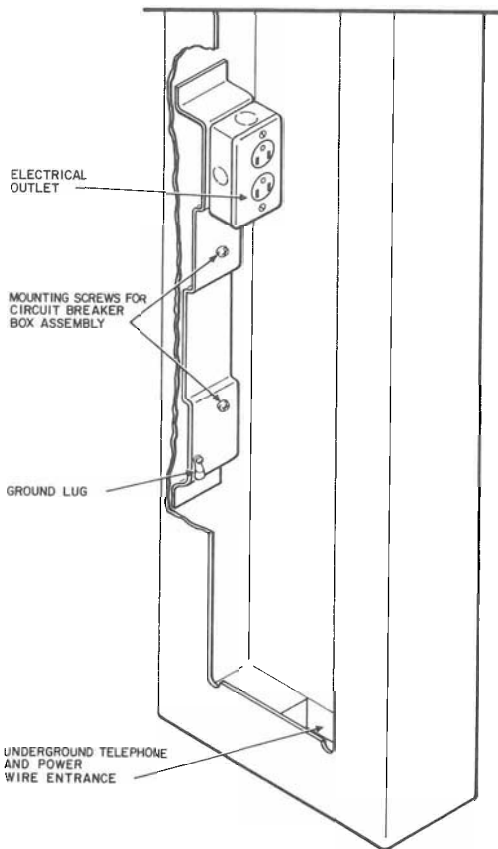
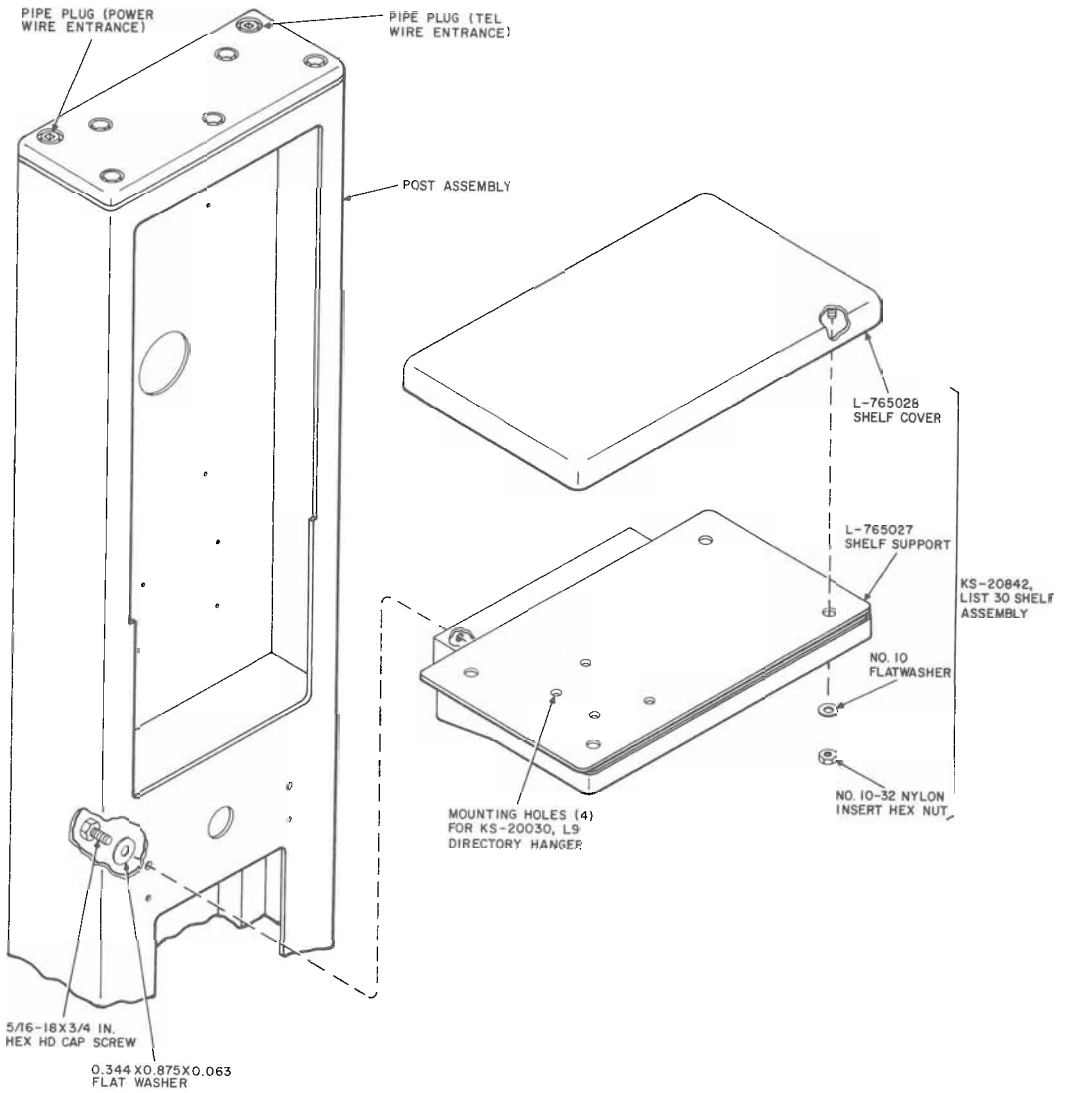
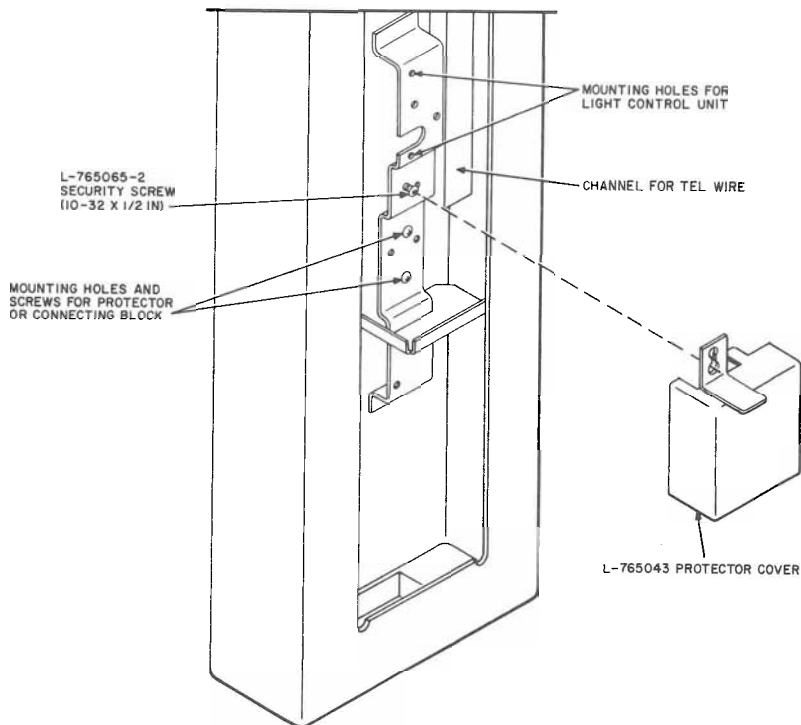

Fig. 4—Outlet for Terminating Electrical Service
Fig. 6—Installation of List 30 Shelf on Post
Fig. 7—Location of Station Protection
**2.16** Electrical service terminates in an electrical outlet located on the lower left inside of post (Fig. 4). The power wiring feeds up through a rectangular entrance hole when coming from below ground level (Fig. 5) or follows a channel down the left side of the post when entering from overhead (Fig. 6).
optional circuit breaker box when required (Fig. 4). The following items must be ordered separately:
**2.18** A lug (Fig. 4) is provided below electrical outlet for connecting the ground wires.
- (1) If the front panel is installed on the post, remove the panel as outlined in 3.03(9).
- (2) Remove two 5/16-18 by 3/4 hex head cap screws and two 0.344 by 0.875 by 0.063 flatwashers from the rear of the shelf assembly.
- (3) Align the holes in the rear of the shelf with the mounting holes on the front of the post (Fig. 6). Using the screws and washers removed in (2), reach in through the opening under the shelf, and insert the screws through the post and into the rear of the shelf. Tighten the screws to secure the shelf
- 3.07** Telephone wire entrance holes are located on the top-right side (Fig. 6) and lower-inside of post (Fig. 5).
**Note:** When the underground wire entrance is used, install flexible conduit between the studs in the mounting surface and the bottom of the protector access cover (Fig. 7).
**Note 2:** When the overhead entrance is used and the protector is located in the lower part of the post, the wire must feed down channel (Fig. 7) to the protector and back up to the wire exit hole in the recessed area. Remove the pipe plug (Fig. 6) on top of the post to gain access to the wire conduit.
**3.11** If the entrance is made from the top, remove the top-left pipe plug (Fig. 6), feed the wiring down the channel in the left side, and terminate at the electrical outlet located inside, lower-left of the post on a mounting bracket (Fig. 4).